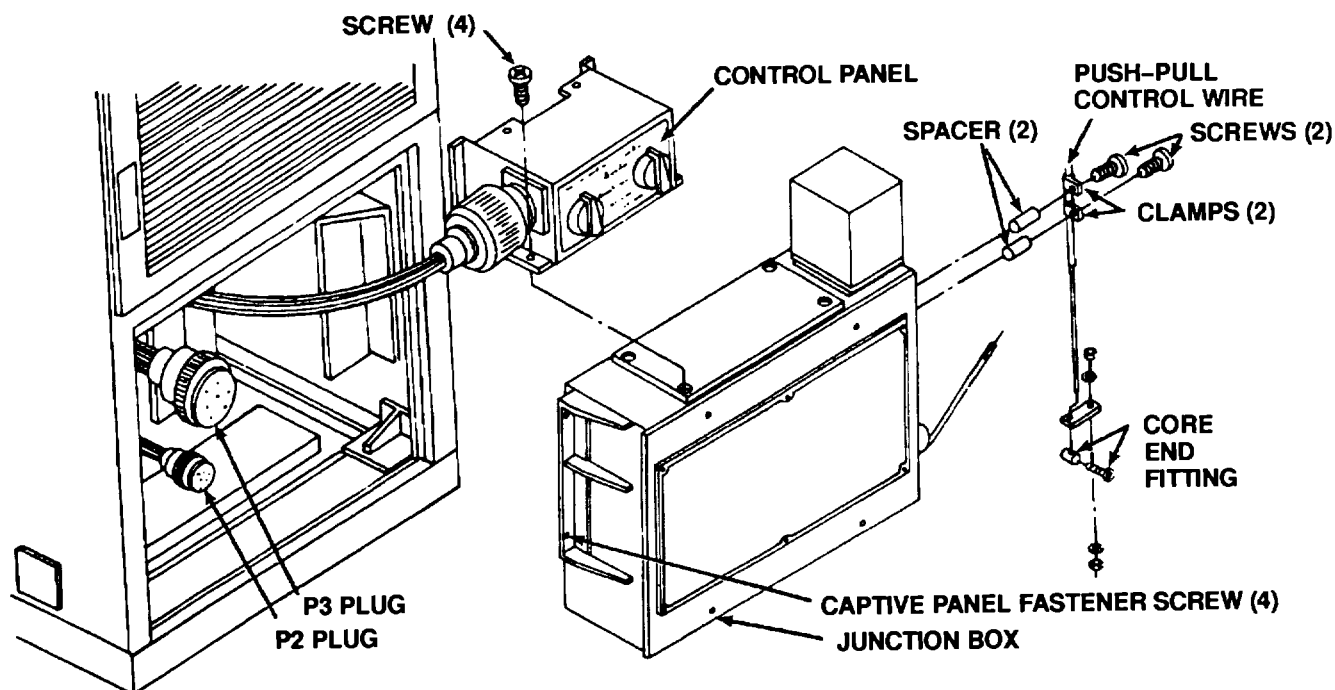

Figure 4-50. Junction Box Removal/Installation
- (6) Insert push-pull control wire end through hole in connector plate.
- (7) Slip core end fitting on push-pull control wire end and tighten screw.
- (8) Flip circuit breaker to OFF (down) position.
- (9) With core end fitting positioned as shown on Figure 4-50, secure push-pull control wire casing to side of junction box with two screws, spacers, and clamps.
- (10) Be sure that circuit breaker is turned on when knob on rear of air conditioner is pulled out and pushed in. Pushing knob in should not turn circuit breaker off.
- (11) Carefully move junction box into position and align mounting hardware.
- (12) Tighten four captive panel fastener screws.
- (13) Insert bottom flange of lower front panel inside the lip of the cabinet base.
- (14) Push top of lower front panel into position.
- (15) Secure lower front panel with two captive panel fastener screws.
- (16) Connect power cable.
- (17) Turn on power at power source.